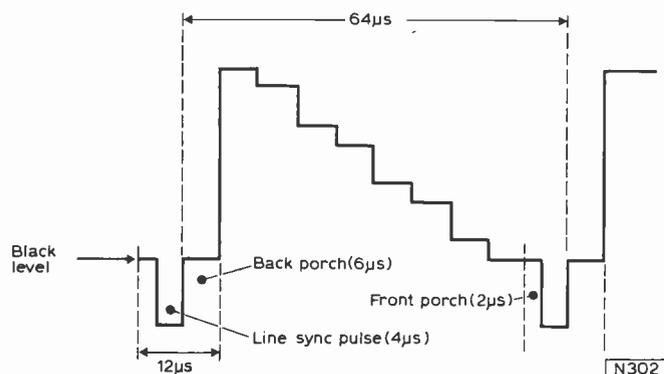

Fig. 1: The grey scale video signal. Each step lasts approximately $6.5\mu\text{s}$.
One line of a 625-line video signal is shown in Fig. 1. The video information is a descending staircase waveform and is the luminance (Y) signal of the 8-step colour bars, each bar being about $6.5\mu\text{s}$ in duration.